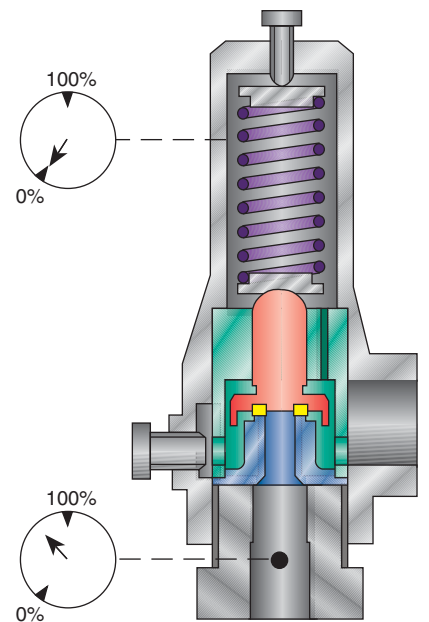

Figure 6
7. After valve reseating, residual pressure in the spring chamber immediately dissipates to the valve outlet, back to atmospheric pressure (or the current value of superimposed back pressure). The safety relief valve is again back to its initial status prior to opening (see Figure 6, page 47).